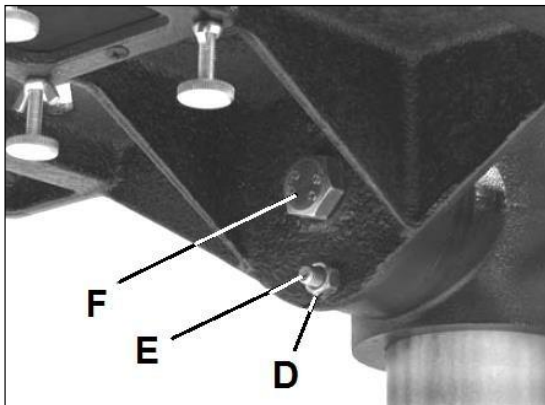

Fig 25
Remove the alignment pin (E, Fig 25) first, by turning the nut (D) clockwise.